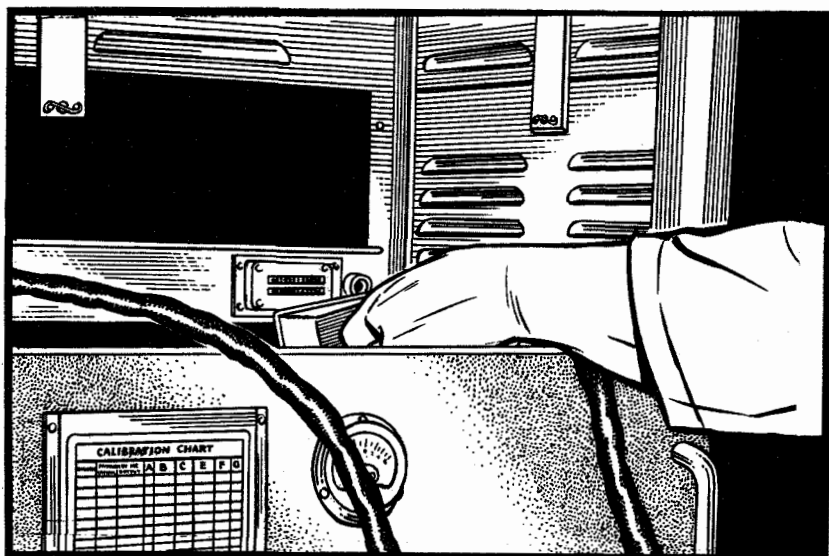

Figure 201
Step 12 (Figures 201 to 204 incl.)